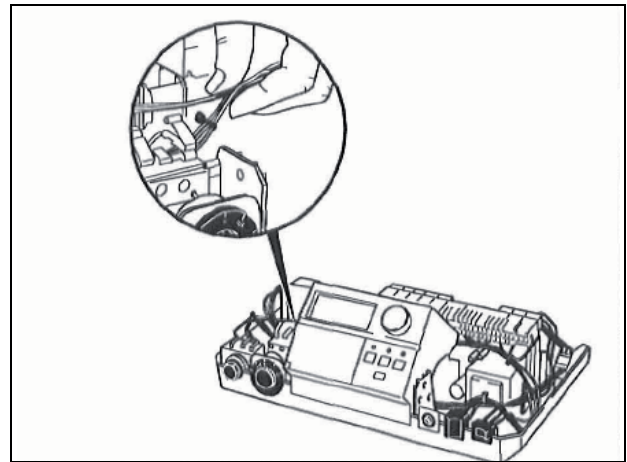

Fig. 4 Use cable-ties to keep cables together.
- Use the cable-tie supplied to fasten the individual wires of the cable together (Fig. 4).